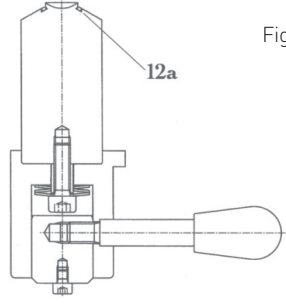

Figure 11
- 4 *Flanged body design (see Fig. 11 and Fig. 12)*